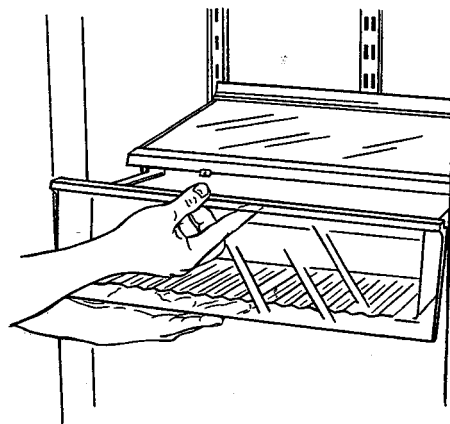

Figure 52
- Lift drawer up slightly to release from notches in grooves and pull drawer free. See Figure 52.